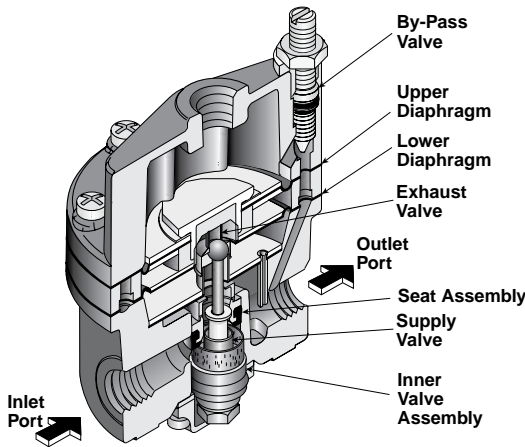

Figure 1.
5. Replace the assembly carefully. For more information, see Figure 1.
At set point, the force due to signal pressure that acts on the top of the Upper Diaphragm balances with the force due to output pressure acting on the bottom of the Lower Diaphragm. See Figure 1.